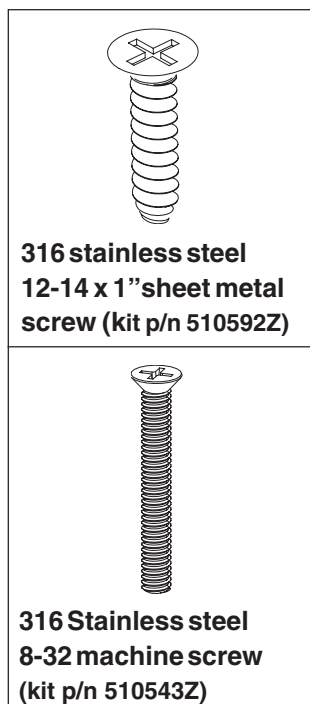

Figure 1
- Install a gasket under and on top of the vinyl liner. Align the gasket and face ring screw holes. Secure the face ring on the top gasket with the eight (8) 316 12-14 x 1" sheet metal self-tapping screws (provided), see Fig. 1. Using a No. 2 Philips head screwdriver, tighten each retaining screw to a **torque value of 10.00 (minimum) to 15.0 (maximum) in-lbs** to secure the face ring and gaskets on the sump. **DO NOT OVER TIGHTEN THE SCREWS. DO NOT ASSEMBLE WITH POWER TOOLS.**